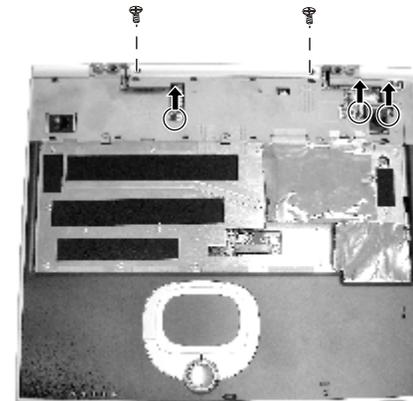

Figure 2-26 Remove two screws
5. Turnover the notebook. Remove two screws. And disconnect three wires. (Figure 2-26)